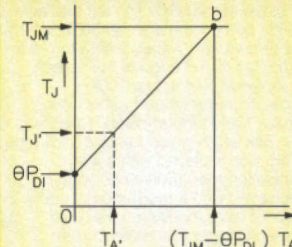

Figure 4. Plot of junction temperature T_J vs ambient temperature T_A for circuits in Figure 3.
A graph of T_J vs T_A , based on (2), is shown in Figure 4. It is a straight line, with a slope of +1, that cuts the T_J axis at $T_J = \Theta P_{D1}$. At any ambient temperature such as at T_A , the corresponding junction temperature is T_J . Of particular importance is the T_A at which $T_J = T_{JM}$. From the geometry of the diagram this is at $T_A = T_{JM} - \Theta P_{D1}$, the point 'b' where the diagonal line cuts limit line $T_J = T_{JM}$.